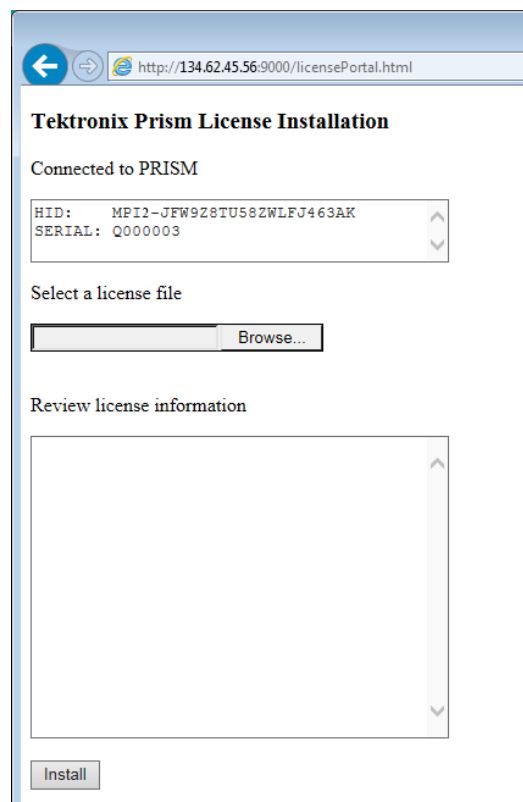

Figure 59: PRISM License Installation Web page – initial view
5. This opens the Tektronix PRISM License Installation Web page. The Web page shows the Host ID (a string that uniquely identifies the instrument) and the instrument serial number. (See Figure 59.)